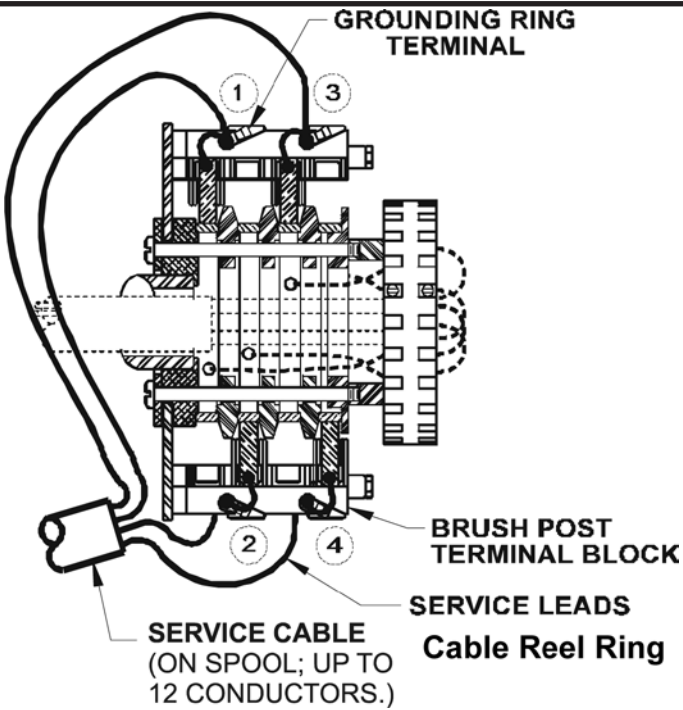
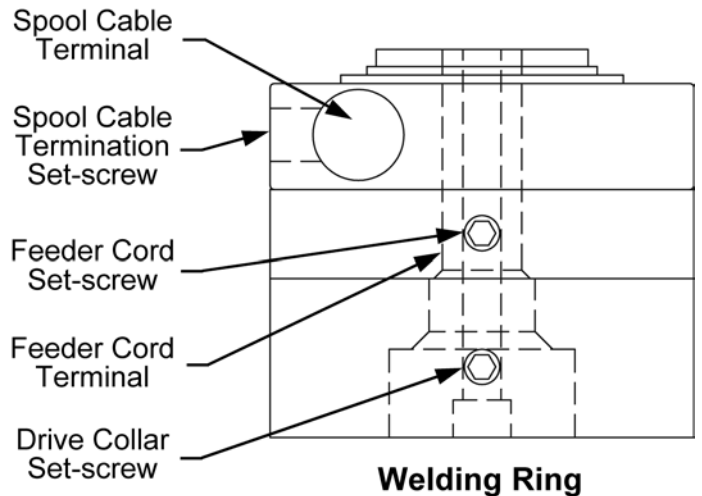

Figure 3
Figure 3a
2.5.7 Strip and insert cable leads into the appropriate brush post terminals and tighten screws. (See page 9 for Color Code Chart used by factory. Figure 3 illustrates Slip Rings, and Figure 3a illustrates Welding Rings.) All weld cable lead ends should be tinned for optimal performance (Fig. 3A)
(For Welding Reels See Section 2.5 and Figure 3a.)